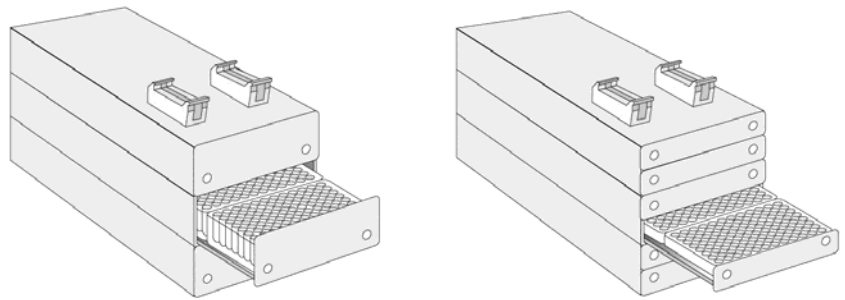

Figure 19. Installing a Microplate Stack with 3 or 6 Drawers
3. Connect one end of the white coiled cable (Part No. SS8J-700) to the Keypad and the other end to the **TERMINAL (SER3)** interface jack on the rear side of the X-axis. For details see Figures 19 or 20;